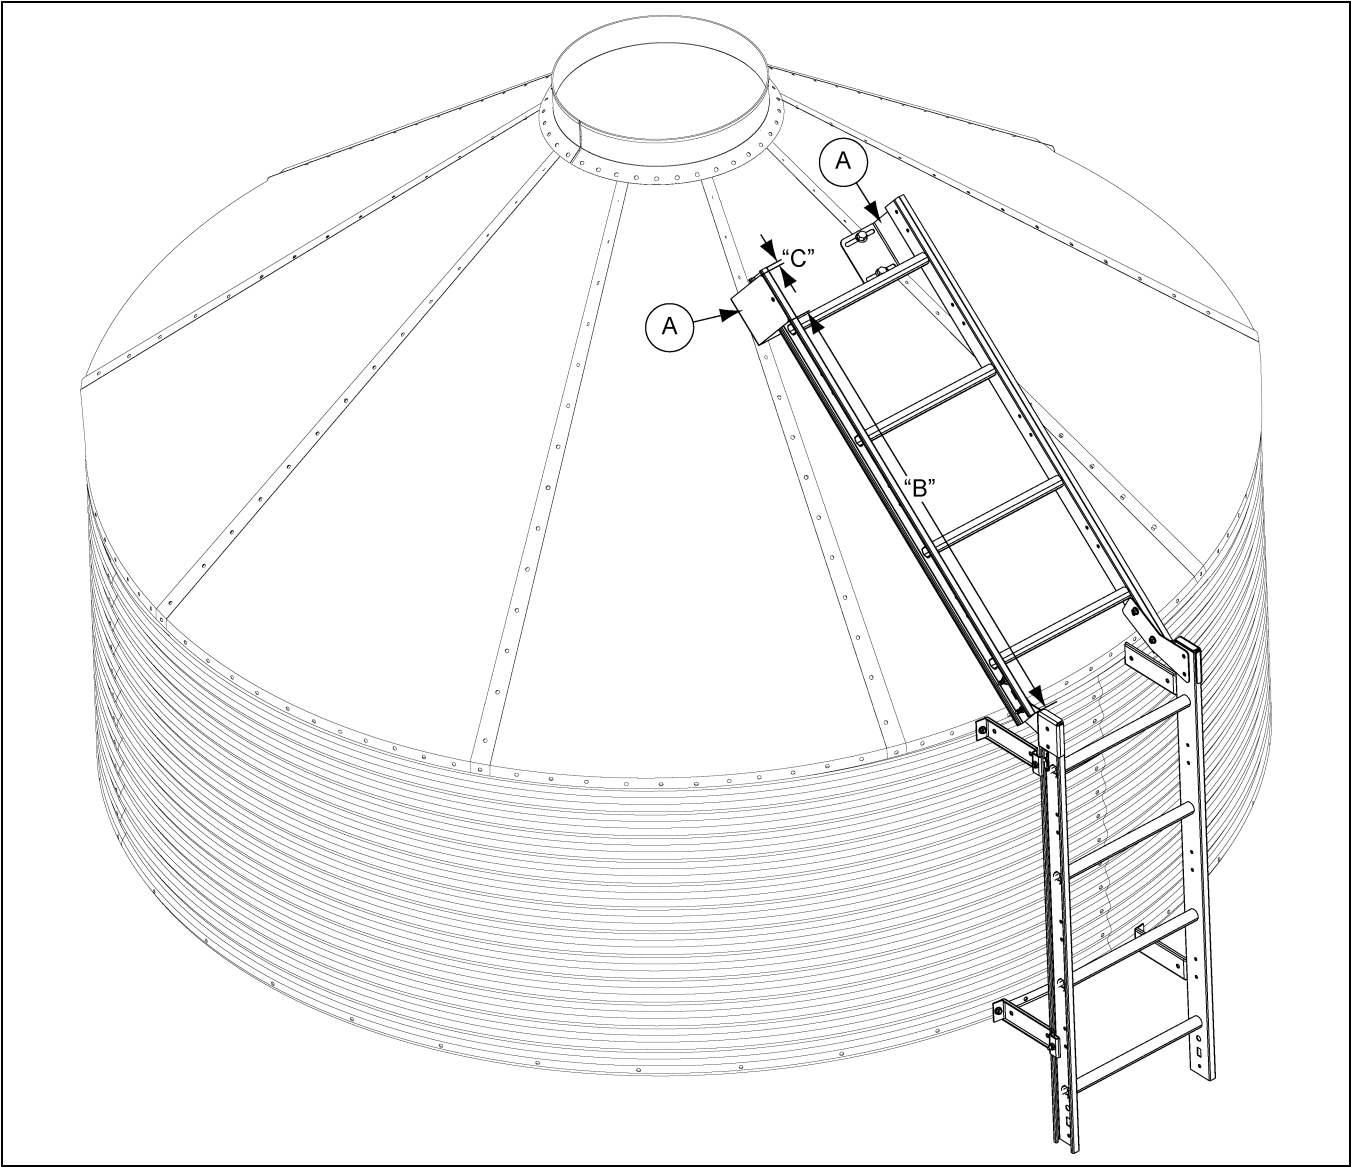

Figure 8E Maximum Allowable Distance
**NOTE:** The roof ladder supports must be assembled so that the maximum distances are not exceeded. See Figure 8E and the “maximum distances chart” to determine maximum allowable spacing of support brackets.